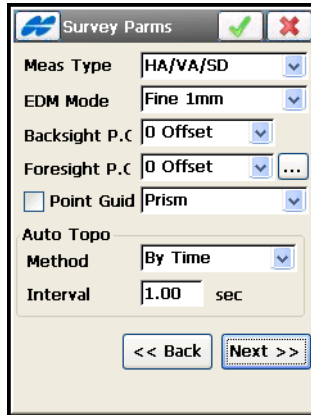

Figure 4-80. Survey Parm. Second Screen.
10. In the next *Survey Params* screen, set the following parameters (Figure 4-80 on page 4-63):